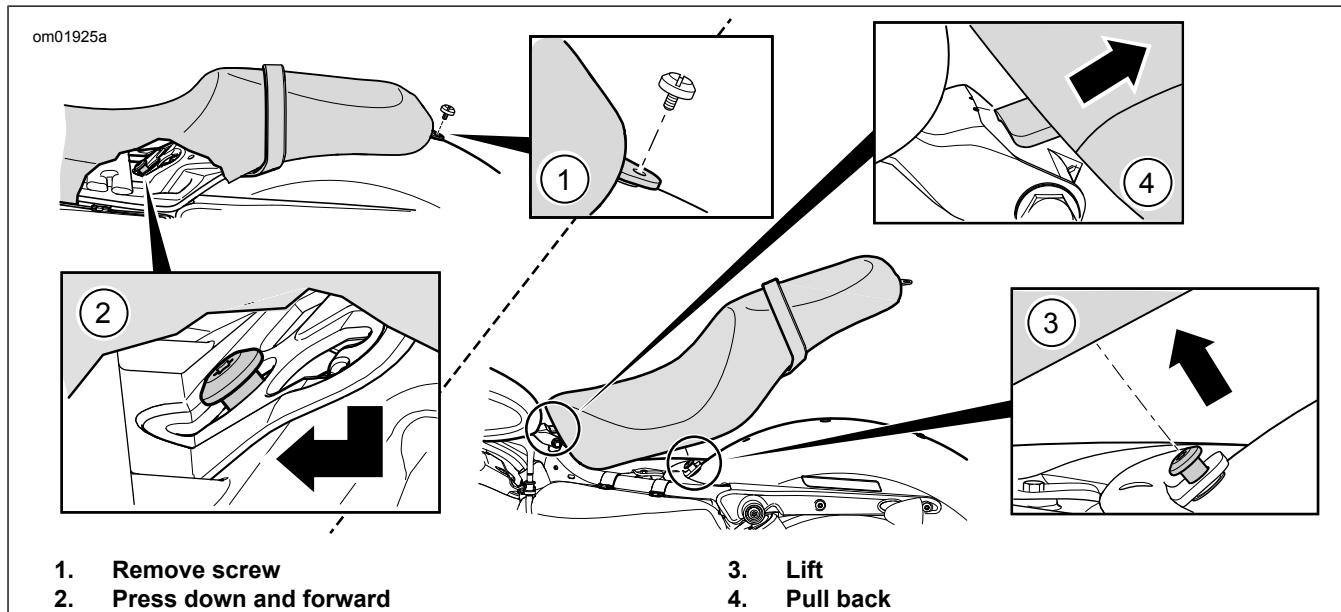

Figure 77. Remove Seat
1. See Figure 77. Remove mounting screw (1) to detach seat from rear fender.
2. Press seat down and forward (2).
3. Lift (3) slightly to detach keyhole bracket from seat post.
4. Pull seat back (4) to detach seat tongue from fuel tank bracket.